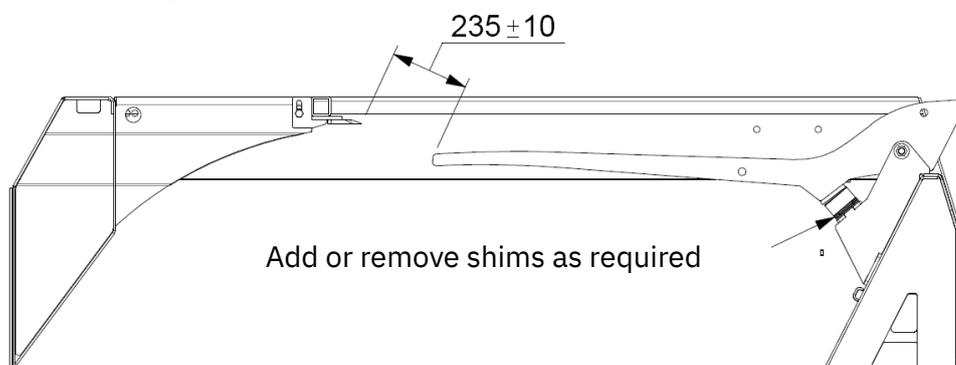

Figure 2: Bale handler tine-to-top knife setting
3. The rubber buffer should also be checked for wear or signs of damage that may affect its shock absorption. The optimum tine-to-top knife gap is **235 mm ± 10 mm** (see figure 2) but may vary depending on the application and design of the tine fitted. Please consult your local service partner for settings.